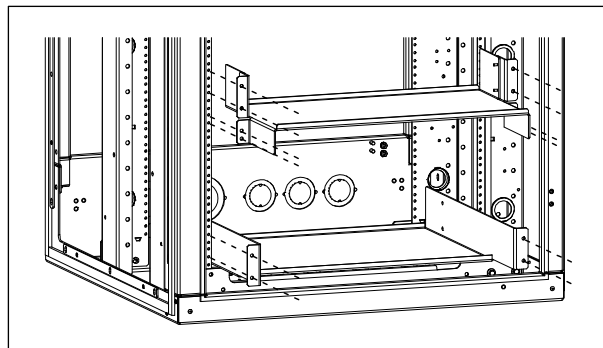

Figure 8 Install Trays
1. Install the two trays on the front rack rails (Figure 8). Use the 12-24, 1/2" long screws included with the kit. Install the battery tray at RU position 1 using four screws. Install the power shelf tray at RU position 6 using eight screws.